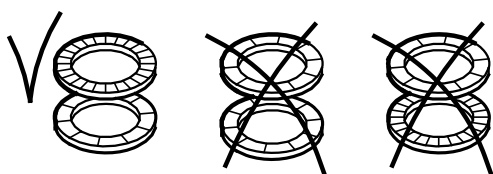

Fig. 8 Correct fitting of washers
10. Fit impeller (pos. 49), clamp (pos. 64c), washers (pos. 66) and nut (pos. 67). See fig. 8.